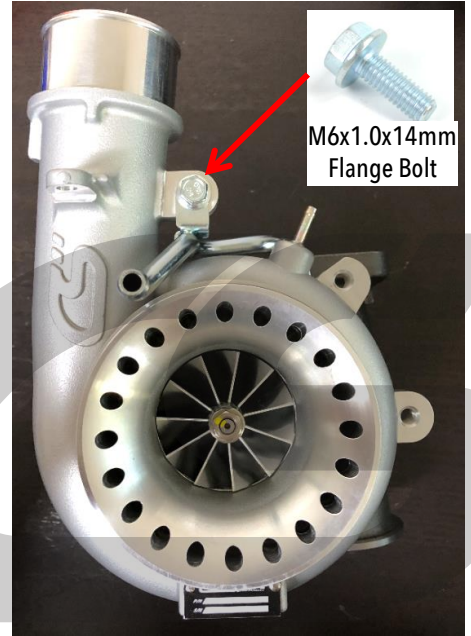

Figure 11c
- b) Install the provided upper coolant line with the OEM 17mm banjo bolt and new provided copper crush washers and **Torque to 20 ft-lb.** Shown with the red circle in **Figure 11b**. Install the M6 10mm flange bolt provided. Shown with the green circle in **Figure 11b**. Also shown in **Figure 11c** on next page with a front view of the turbo.